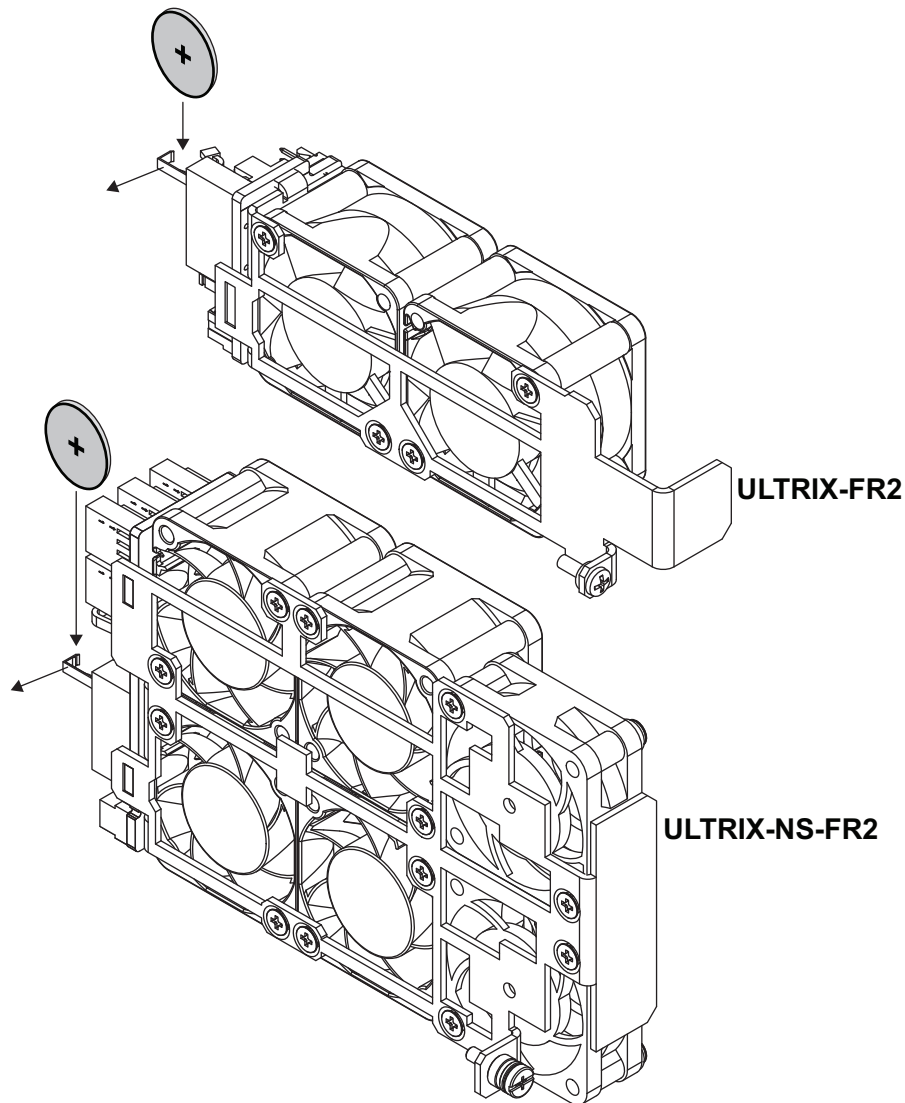

Figure 87 New Battery Orientation —ULTRIX-FR2 and ULTRIX-NS-FR2
1. Hold the battery in one hand and orient it so that the Positive side (+) faces away from you. (Figure 87)